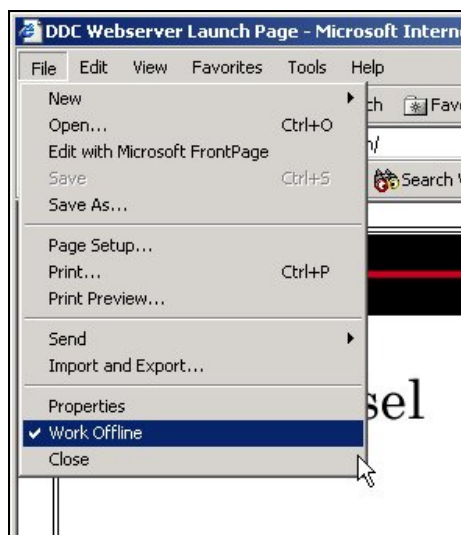

Figure 3
2. If you cannot open the page displayed above, in Internet Explorer click on "File" and make certain the "Work Offline" option is not enabled. If there is a check mark next to "Work Offline", simply click on the "Work Offline" option one time to disable it (Figure 3).